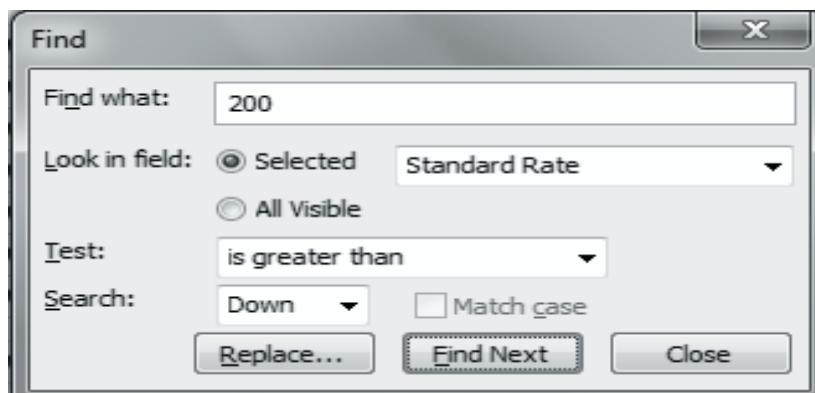

Figure 8.4: Finding a Resource Based on Certain Values
2. On the **Task** tab, click the **Find** button in the **Editing** group to display the Find dialog box, as shown in figure 8.4.